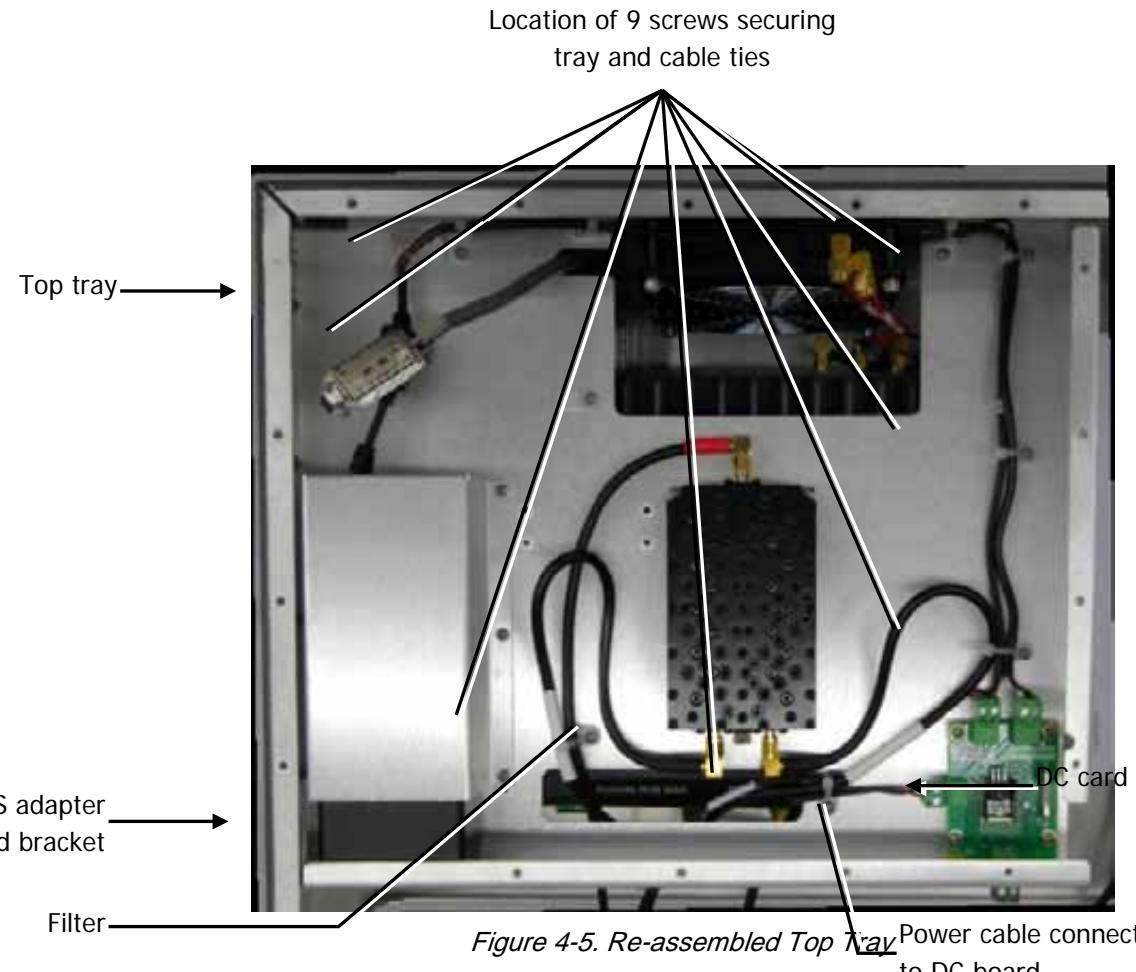

Figure 4-5. Re-assembled Top Tray
2. Assemble the following components (shown in Figure 4-5):